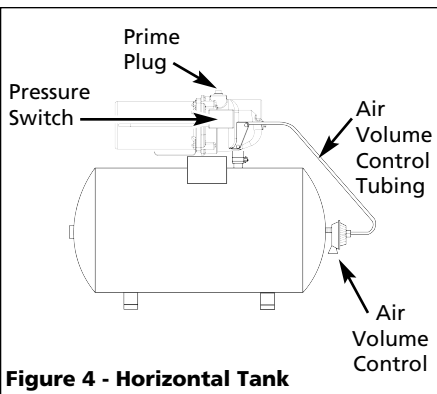

Figure 4 - Horizontal Tank
SHALLOW WELL PUMP WITH CONVENTIONAL STORAGE TANK (FIGURES 4 & 5)
1. Remove prime plug (Figure 4 or 5).